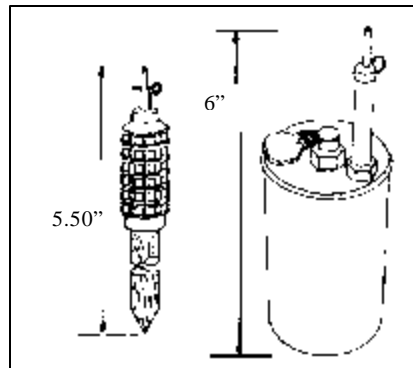

Figure 71. APERS trip wire-fuzed bounding mines.
- (2) Typical fragmentation APERS mines are shown in Figure 71. These mines are normally made of plastic with metal balls embedded in the plastic. They may be fixed or bounding type mines.